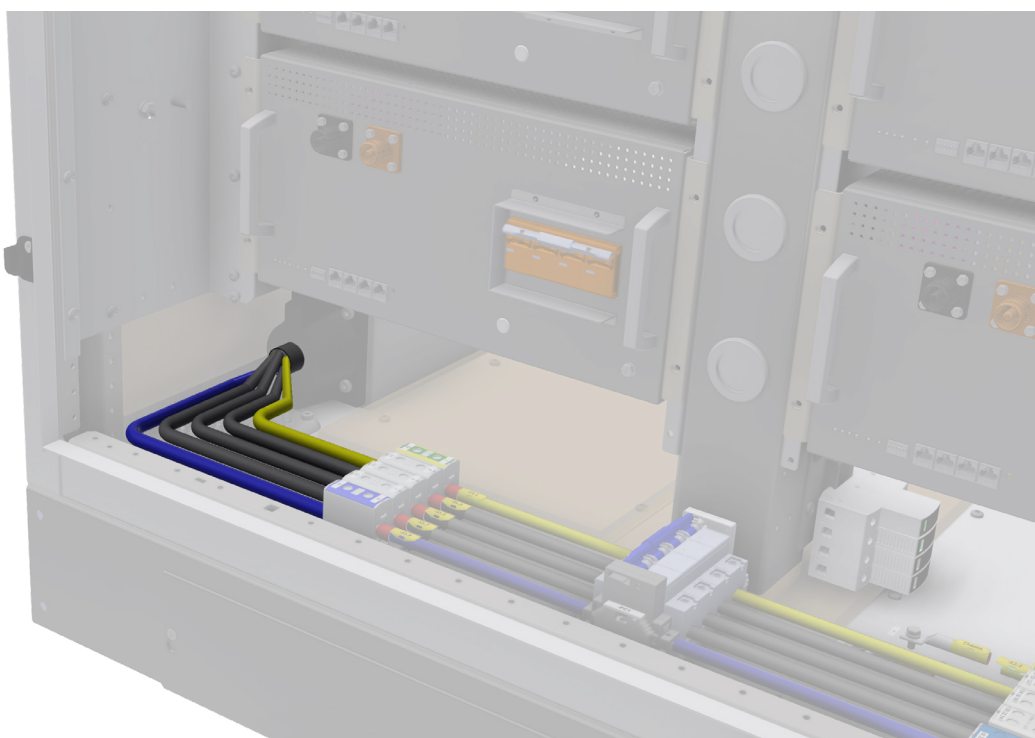

Figure 4.5 AC mains cable - TN-S / TT (230/400Vac) network
- Connect phase wires (L1, L2, L3) and neutral wire (N) to terminals X1 (see Figure 4.5.) Use torque T2.